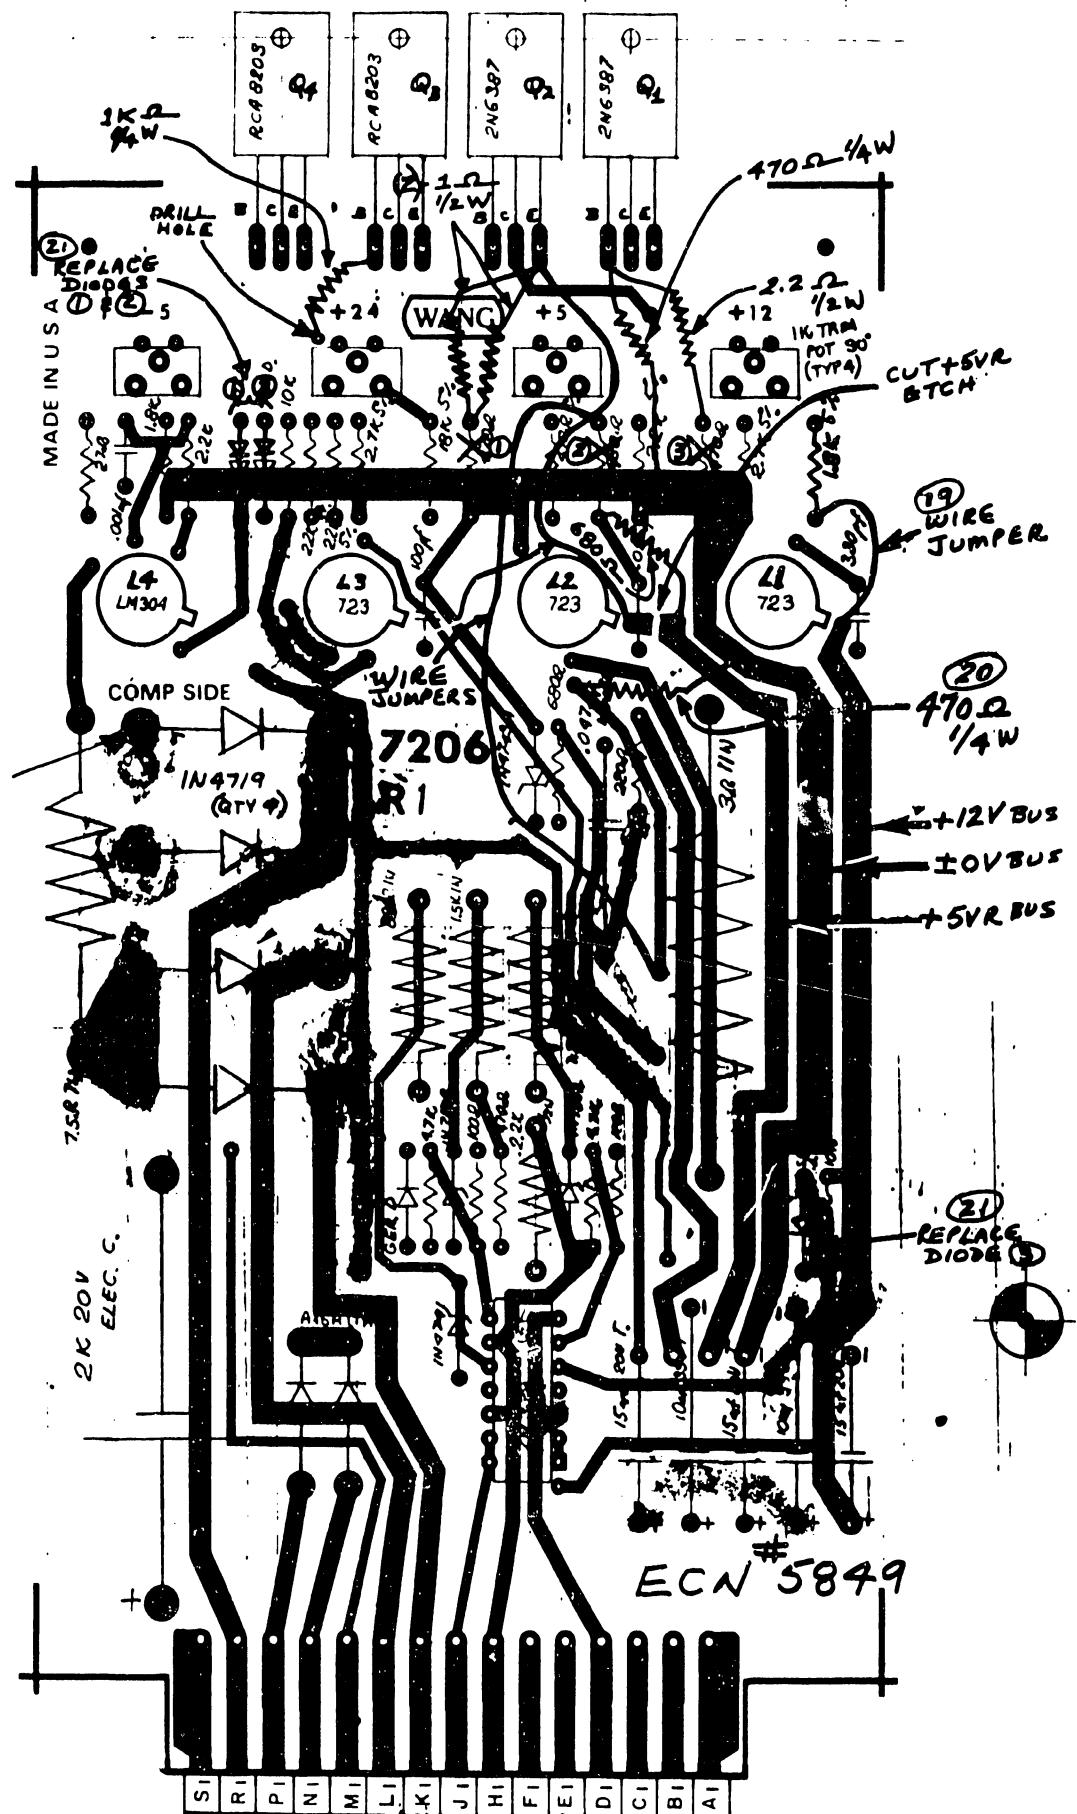
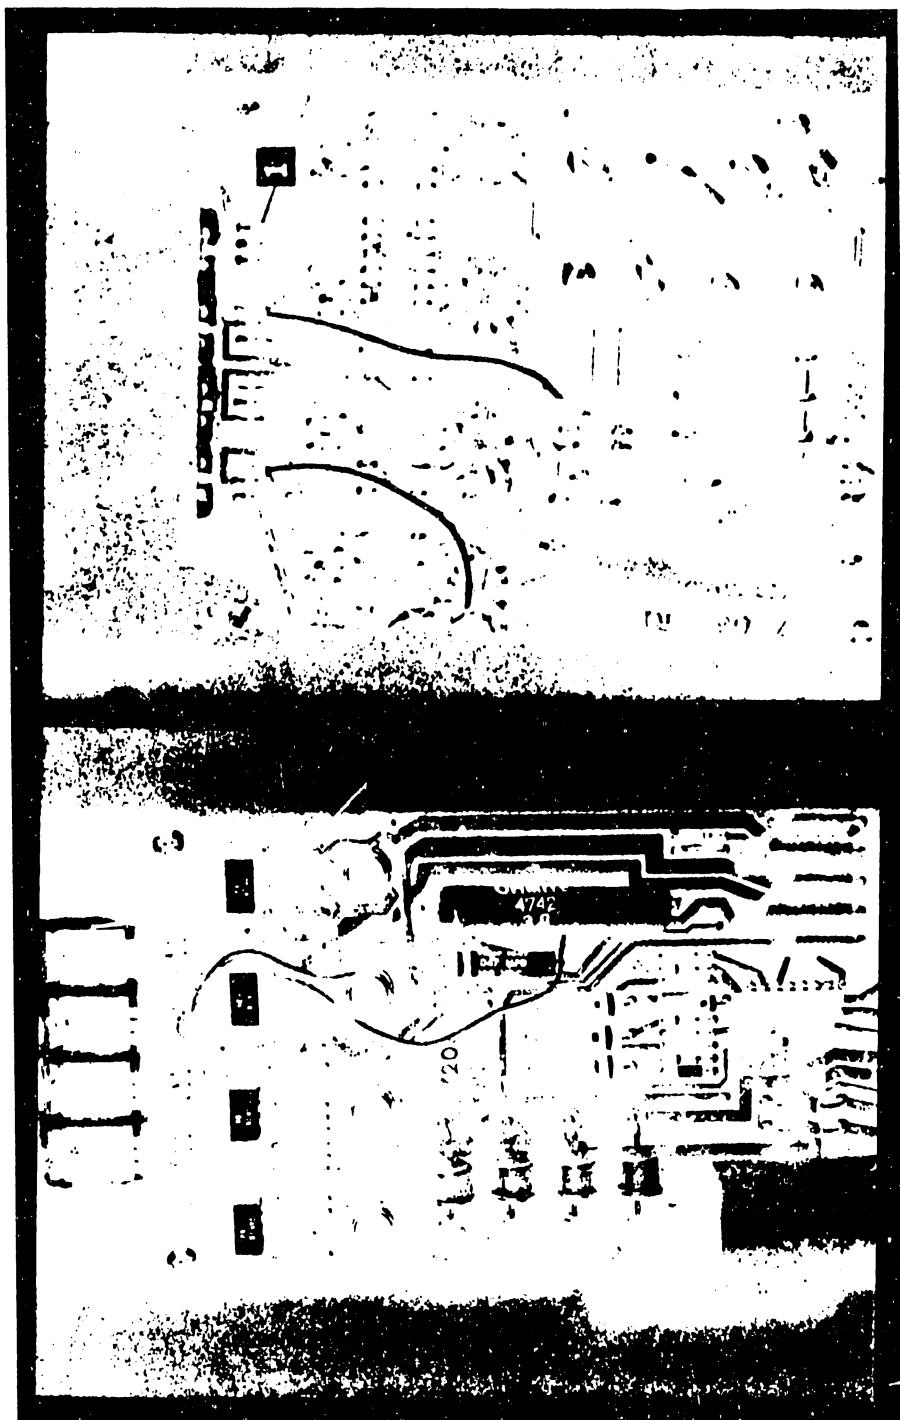

FIGURE 5-1
FIGURE 5-3
Per schematic below, add two  $1\Omega$ ,  $1/2$  W resistors to +5 VR regulator; also, add one  $2.2\Omega$   $1/2$  W resistor to the +12VR regulator. Change 3 silicon diodes from 380-1000R to 380-1001R. See Figure 5-1 and 5-2. Figure 5-3 is a photograph of the installed ECN 5849 on the 7206 PCB.
- 10) Drill hole to install  $1K\Omega$  resistor (Part #330-3010). (Do not damage etches on back of board.) See Figure 5-1.
18) Add jumper wire from top plate through of removed 680Ω resistor 2 to bottom of etch plate through shown in Figure 5-1.
20) Install 470Ω resistor (Part #330-3023UB) with sleeving on pigtail and solder to +OV bus. Connect other end of resistor to top end of etch plate through shown on Figure 5-1.